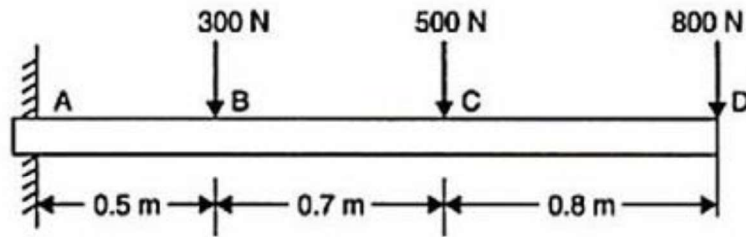

Fig. 4
- b) Draw the SFD (shear force diagram) and BMD (bending moment diagram) for the cantilever beam shown in Fig. 4. [7]